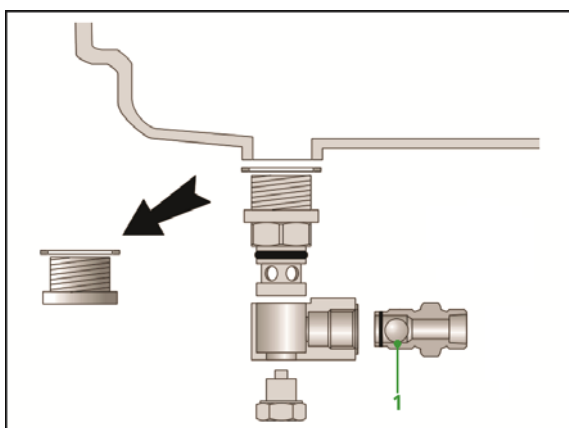

Figure 3.1 Mounting the sump coupling
3. Substitute the sump plug by the sump coupling (Figure 3.1). Due to the vast number of screw thread sizes it is important to verify whether the sump coupling in the kit complies with the screw thread in the sump.